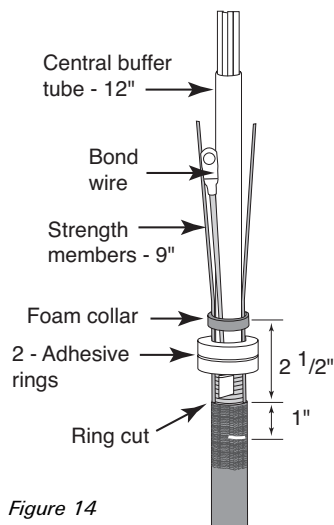

Figure 14
8. Peel the backing away from the foam adhesive strip. Wrap one layer of foam around the central core tube 2-1/2" above the sheath ring cut, excluding the bond wire (if present) and the strength members. Wrap the remainder of the foam strip around the central core tube, strength members, and bond wire (if present) over the previously placed foam strip, creating a foam collar. (Figure 14)
9. Install both yellow adhesive rings over the central core tube, strength members, and bond wire between the shield (if present) or the sheath ring cut and the foam collar. (Figure 14)